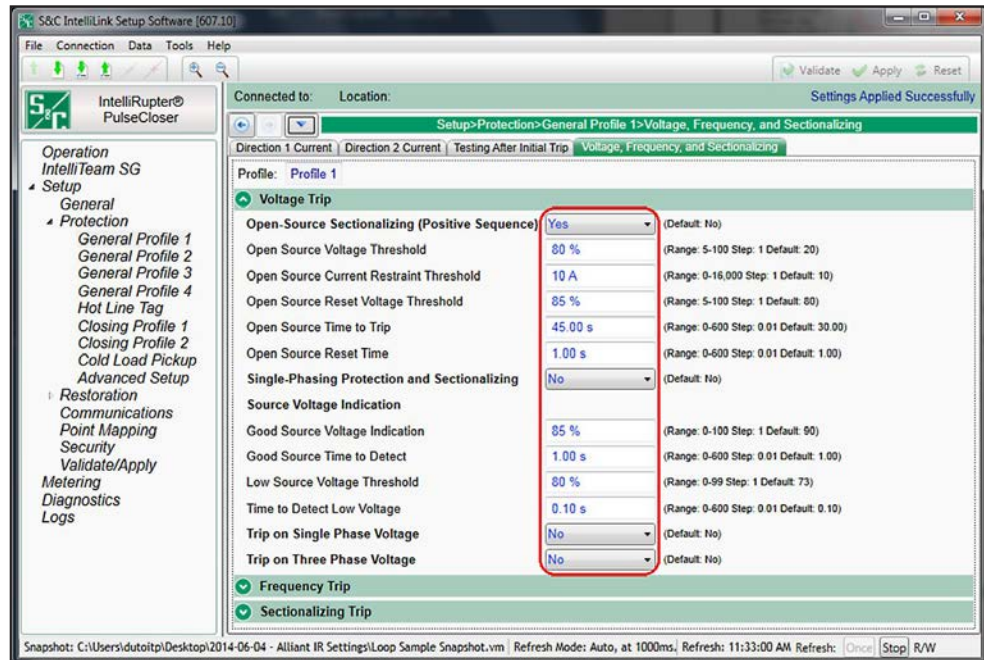

Figure 82. The *Setup>Protection>General Profile 1>Voltage, Frequency, and Sectionalizing>Voltage Trip* screen.
STEP 10. Adjust the **Voltage Trip** elements on the *Setup>Protection>General Profile 1>Voltage, Frequency, and Sectionalizing>Voltage Trip* screen. See Figure 82.
- Keep the **Good Source Time to Detect** setpoint and the **Time to Detect Low Voltage** setpoint at the default values. See Figure 82.